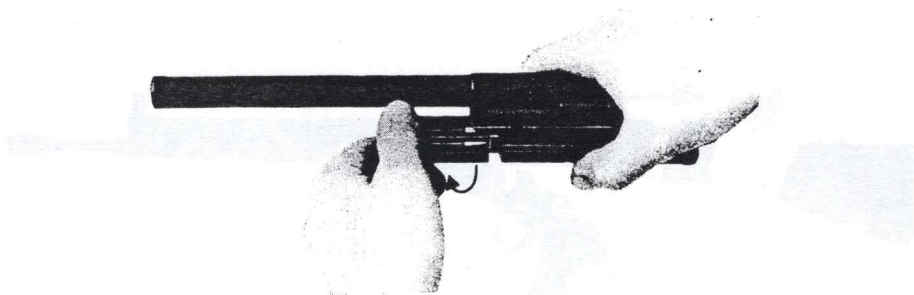

Fig. 65: Disassembly of the bolt
**Bolt stripping.** The bolt should be disassembled only on the occasion of a main cleaning. In order to dismount the bolt you grasp the bolt head carrier with one hand, turn the bolt head with the other, and strip it off the bolt head carrier (Fig. 65).